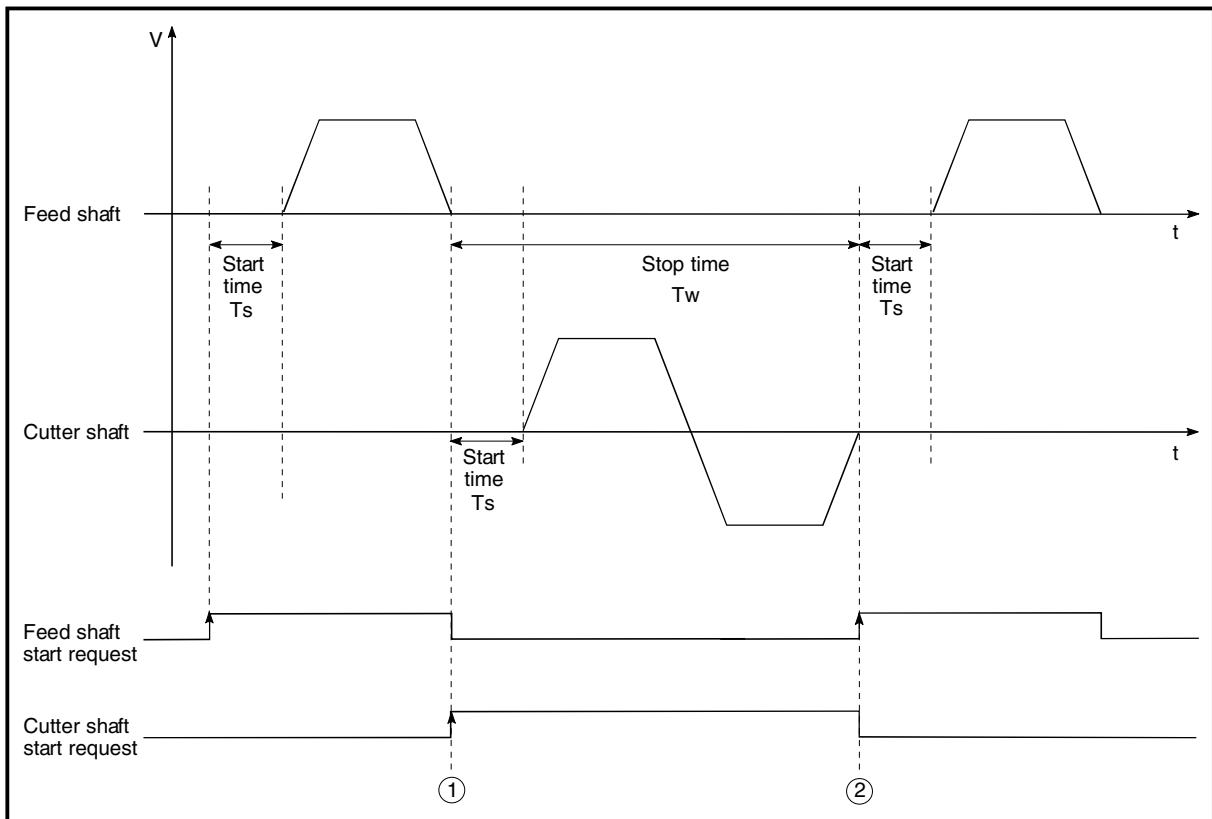

Fig. 12.50 Operation timings of system example
to cut the stock to fixed size. The operations of the feed shaft and cutter shaft are represented as shown in Fig. 12.50.
In Fig. 12.50, the feed shaft stands by during the stop time T_w .
- (1) The time required to analyze the positioning data is up to 4.0ms.
- (2) After positioning data analysis, the system is put in an execution prohibition flag OFF waiting status. Any change made to the positioning data in the execution prohibition flag OFF waiting status is not reflected on the positioning data. Change the positioning data before turning ON the positioning start signal.
- (3) The pre-reading start function is invalid if the execution prohibition flag is turned OFF between when the positioning start signal has turned ON and when positioning data analysis is completed (Ta < start time, Ta: Refer to Fig. 12.50).
- (4) The data No. which can be executed positioning start using "Cd.3 Positioning start No." with the pre-reading start function are No. 1 to 600 only. Performing the pre-reading start function at the setting of No. 7000 to 7004 or 9001 to 9004 will result in an outside start No. range error (Error code: 543).
- (5) Always turn ON the execution prohibition flag at the same time or before turning ON the positioning start signal. Pre-reading may not be started if the execution prohibition flag is turned ON during Ta after the positioning start signal is turned ON. The pre-reading start function is invalid if the execution prohibition flag is turned ON after positioning start (pulse output) with the execution prohibition flag OFF. (It is made valid at the next positioning start.)